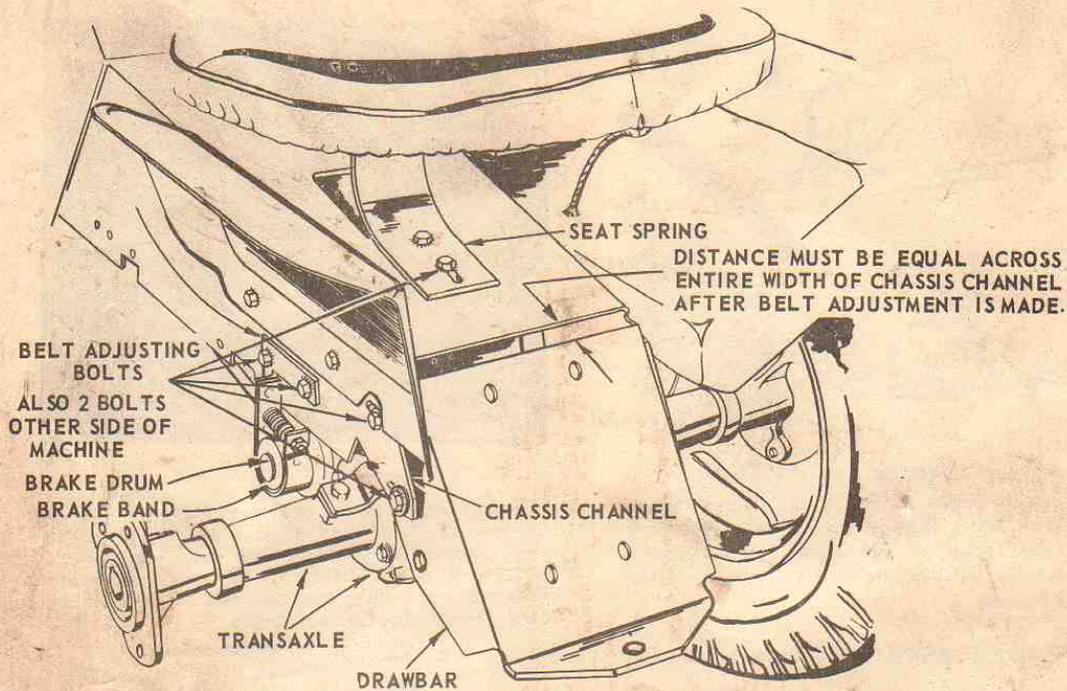
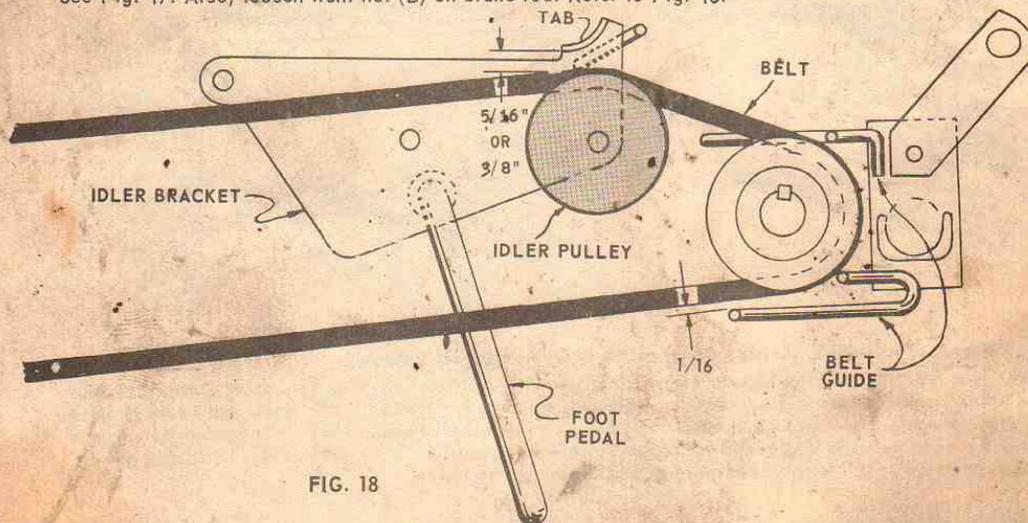

FIG. 17
FIG. 18
To adjust brake, turn rear nut (A, Fig. 15), on brake rod. Then turn front nut (B, Fig. 15), about 1 turn at a time until finger on idler bracket holds belt straight or deflects belt not more than $1/8''$, when foot pedal is fully depressed, (pushed forward), and brake band makes solid contact with brake drum. NOTE: Belt must be straight or deflected slightly when pedal is depressed for clutch to release properly. Check belt guides at engine pulley. Guides must clear belts by $1/16''$ when clutch is engaged. Refer to Fig. 18.
1. Loosen bolts holding transaxle and brake to chassis channel. (Total eight) Two on each side in chassis and drawbar, two in L.H. chassis side and brake bracket, two in seat spring and chassis. See Fig. 17. Also, loosen front nut (B) on brake rod. Refer to Fig. 15.
2. Depress foot pedal and place a $3/8$ " block between tab on idler bracket and belt as shown. (If $3/8$ " block is not available a common lead pencil can be used which is about $5/16$ " round). See Fig. 18. Pull drawbar and transaxle assembly to rear, Fig. 17, until foot pedal just starts to move forward, Fig. 18. Tighten bolts in R.H. chassis channel side and drawbar. Be sure space between drawbar and chassis, Fig. 17, is equal on both sides and tighten L.H. bolts and seat spring bolt securely. If spacing between chassis and drawbar is not equal tractor will not track properly.
5. Check belt guides at engine pulley. Belt guides must clear belts by $1/16$ inch when clutches are engaged. See Fig. 18.